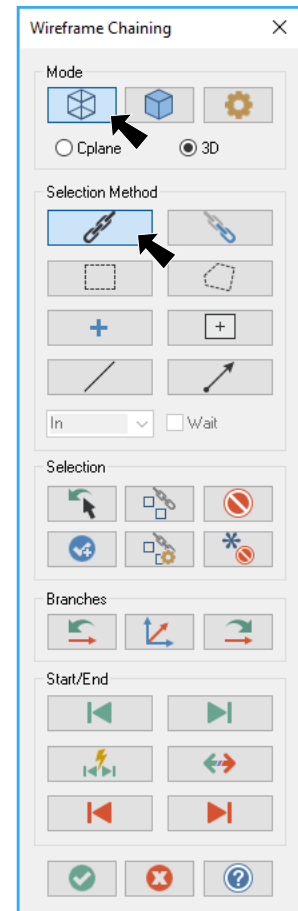

Fig. 18
Step 2. Click Chain  in Chaining dialog box, **Fig 18**.